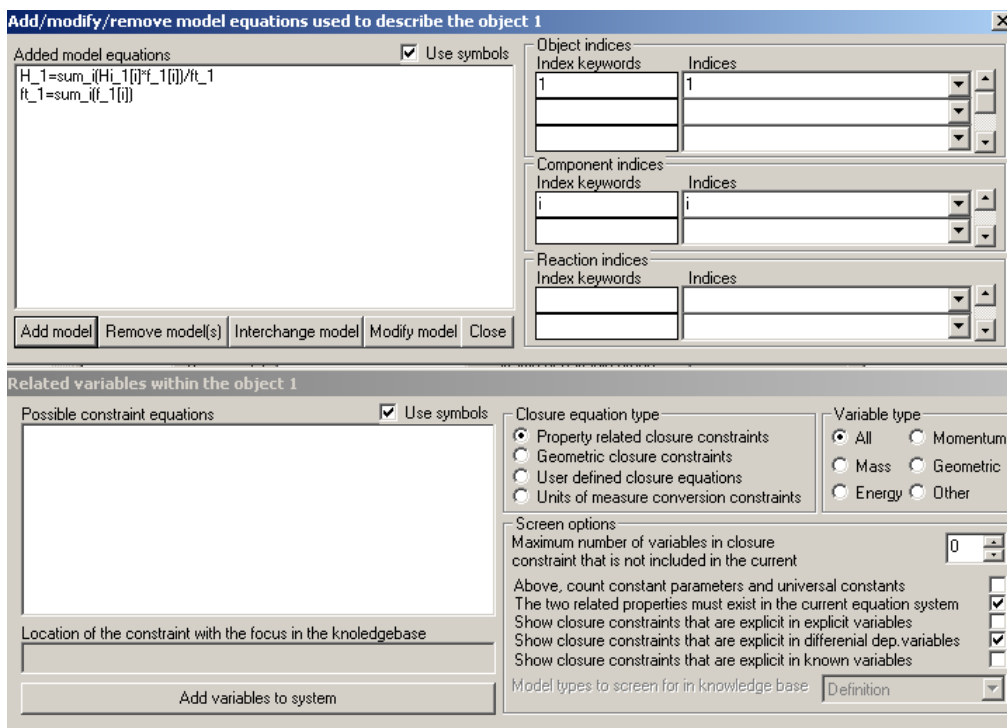

Figure 15: Tool for adding “closure equations”
Step4: Definition of “closure equations” – The model is not yet complete since there are several terms on the right hand side of equation 7 which have not been defined but which are not independent equations. These equations are termed as “closure equations” or constraints. In order to define them, double click on the stream (for example, stream 1), select “related variables” on the “stream description” tool and then add the “mass” and “energy” related constraints. An example is shown in figure 15.